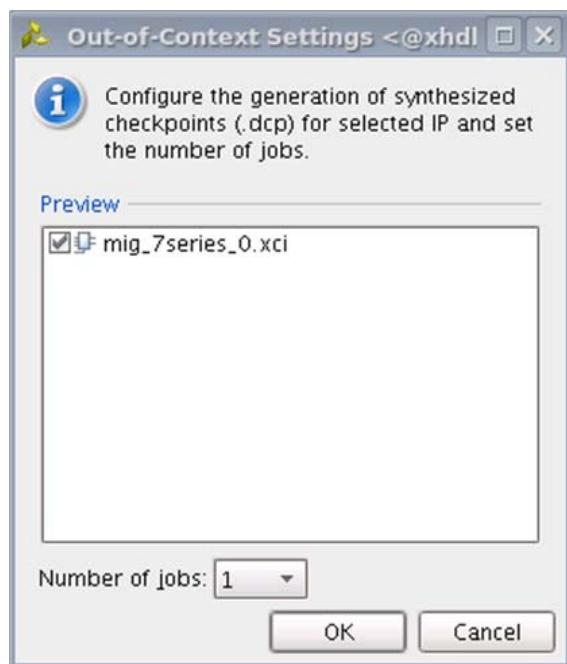

Figure 4-28: Out-of-Context Settings Window
2. Click **Out-of-Context Settings** to configure generation of synthesized checkpoints. To enable the **Out-of-Context** flow, enable the check box. To disable the **Out-of-Context** flow, disable the check box. The default option is "enable" as shown in Figure 4-28.